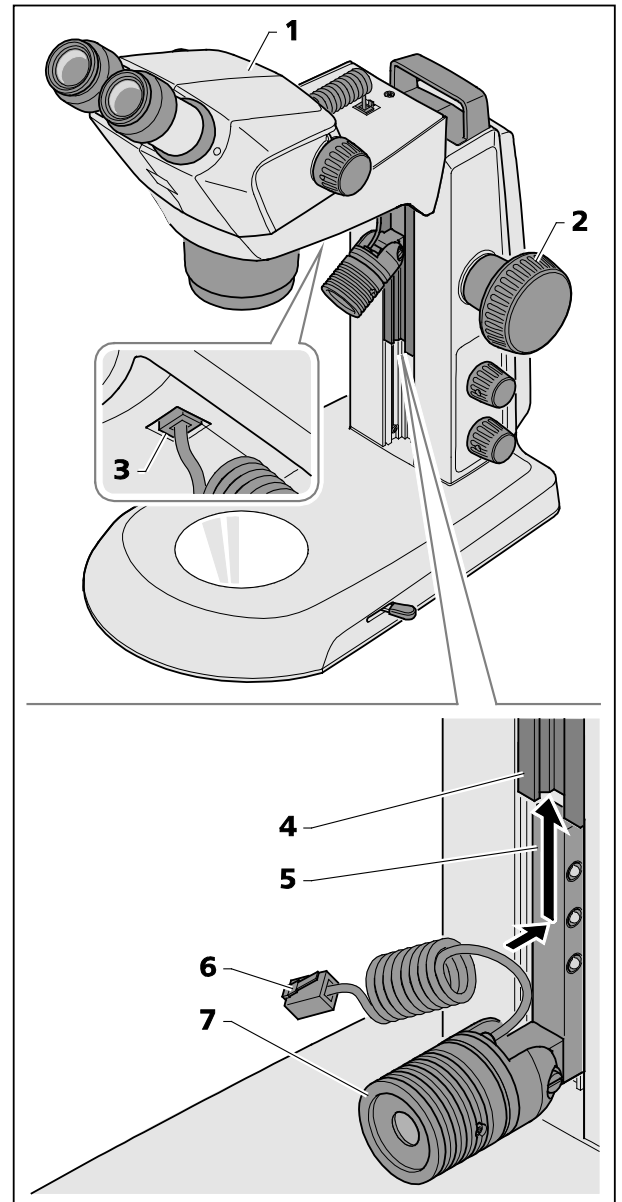

Fig. 12 Mounting spot illuminator
- Move the microscope body (Fig. 12/1) into its uppermost position via the focusing knob (Fig. 12/2).
- Insert the spot illuminator (Fig. 12/7) in the stand by sliding the holder (Fig. 12/5) into the stand guide (Fig. 12/4) from below and push it upwards into the required position.
- Plug the connection cable (Fig. 12/6) of the spot illuminator into the lower socket of the Stemi mount (Fig. 12/3).